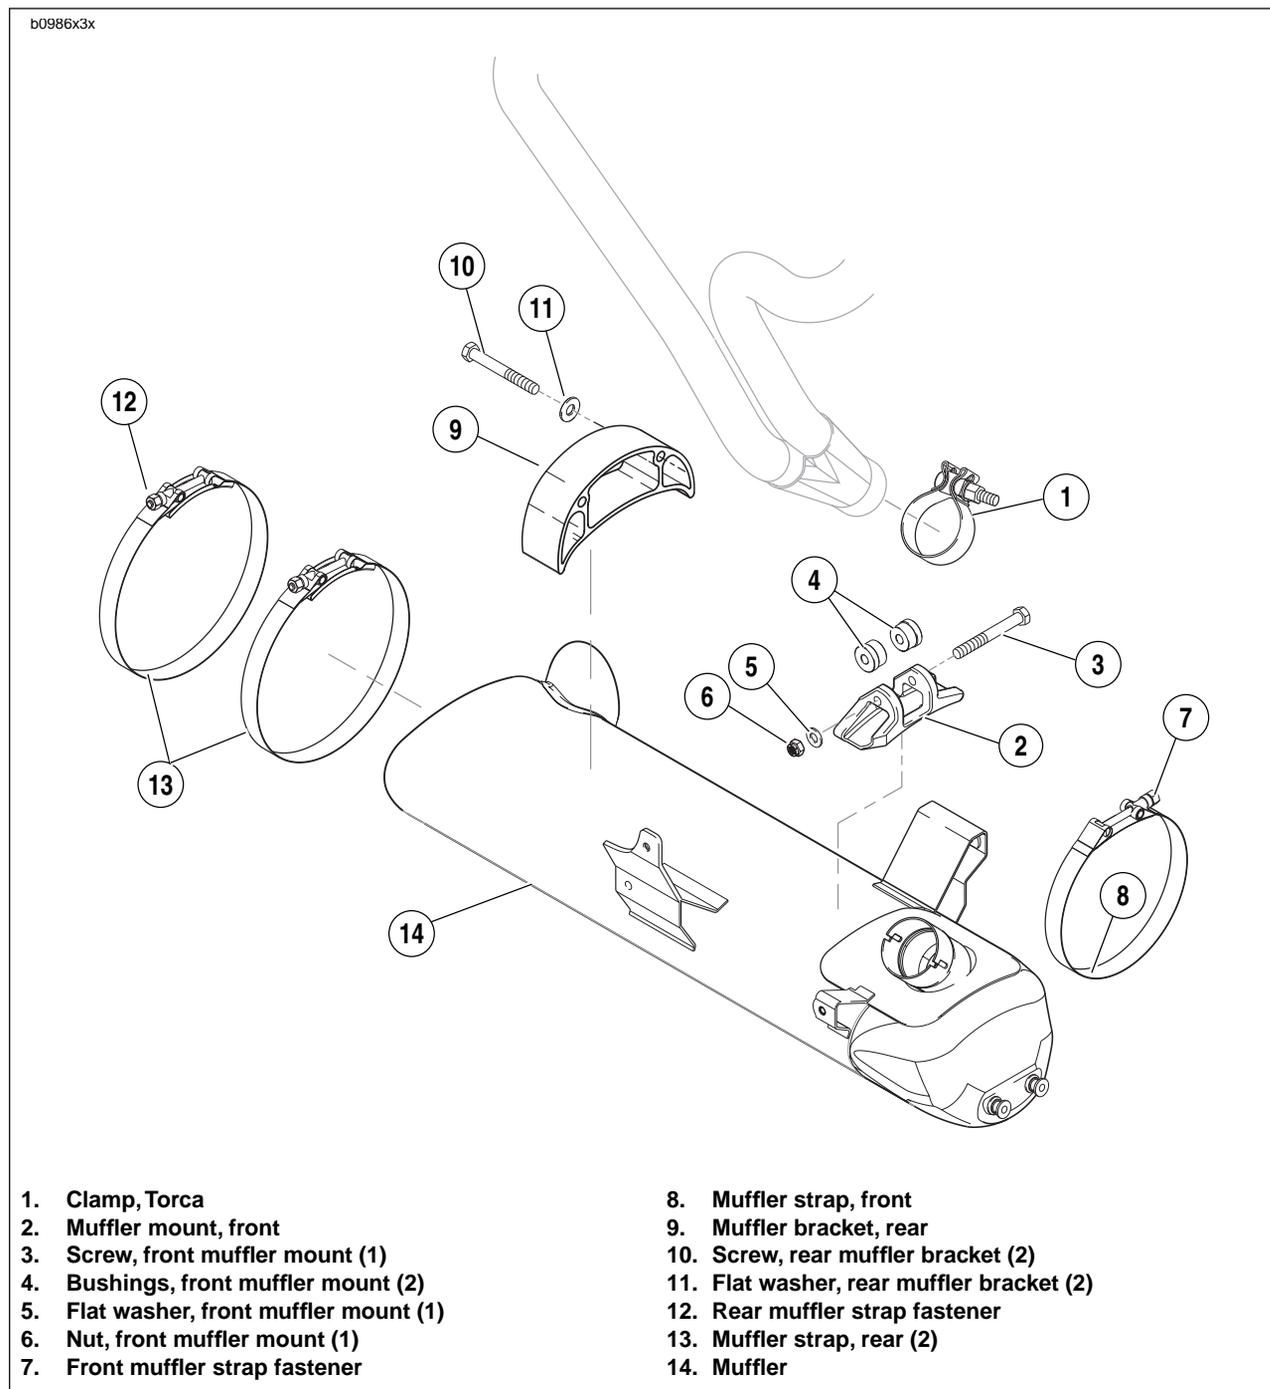

Figure 3-18. Muffer and Mounting System
16. See Figure 3-18. Remove muffer:
- a. Remove front muffer strap fastener (7). Front strap will not be removed.
- b. Alternately loosen rear strap fasteners (12) and remove rear muffer straps.